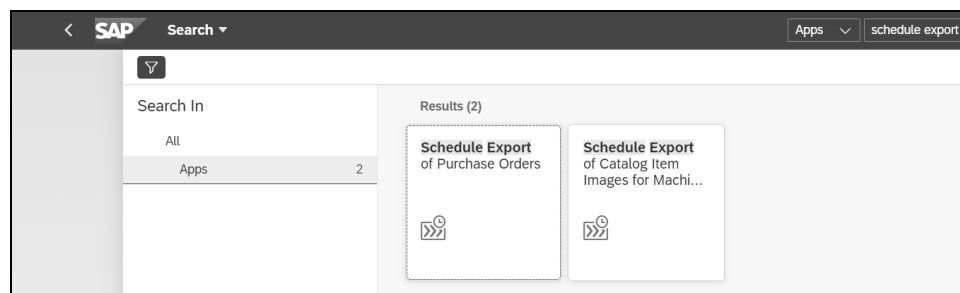

Figure 5.35 Schedule Export of Purchase Documents
2. Search for the **Schedule Export of Purchase Orders** tile as in Figure 5.35.